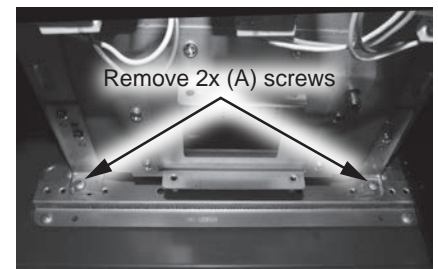
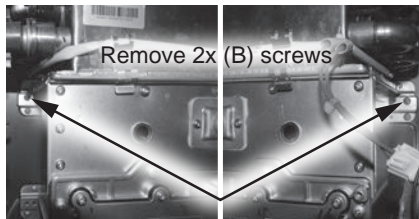

Figure 152 - Removing primary HEX (A) screws
Figure 153 - Removing primary HEX (B) screws
44 Locate the bottom horizontal bracket and two (A) screws securing the primary heat exchanger assembly to the backside of the water heater cabinet as shown in Figure 152. Use a 12" magnetized Phillips screwdriver to remove the screws. Place them aside in a safe place for reinstallation.
45 Locate the upper horizontal bracket and two (B) screws securing the primary heat exchanger assembly to the backside of the water heater cabinet as shown in Figure 153. Use a 12" magnetized Phillips screwdriver to remove the screws. Place them aside in a safe place for reinstallation.
75 Locate the four primary heat exchanger mounting screws previously removed in **Steps 44 & 45**. Use a 12" magnetized Phillips screwdriver and four screws to secure the heat exchanger to the two horizontal brackets. See Figure 152 & Figure 153.